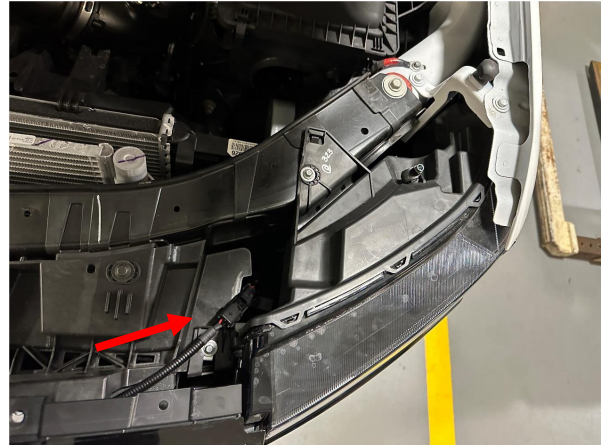

Figure 13.
- 20:** Route the quick connect harness up and around the headlamp as shown in Figure 13.